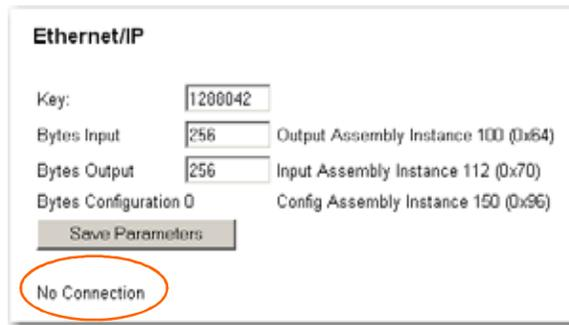

FIG. 222 ETHERNET/IP CONNECTION STATUS
Step 7. The Connection status is below the Save Parameters button. (See Fig. 222)